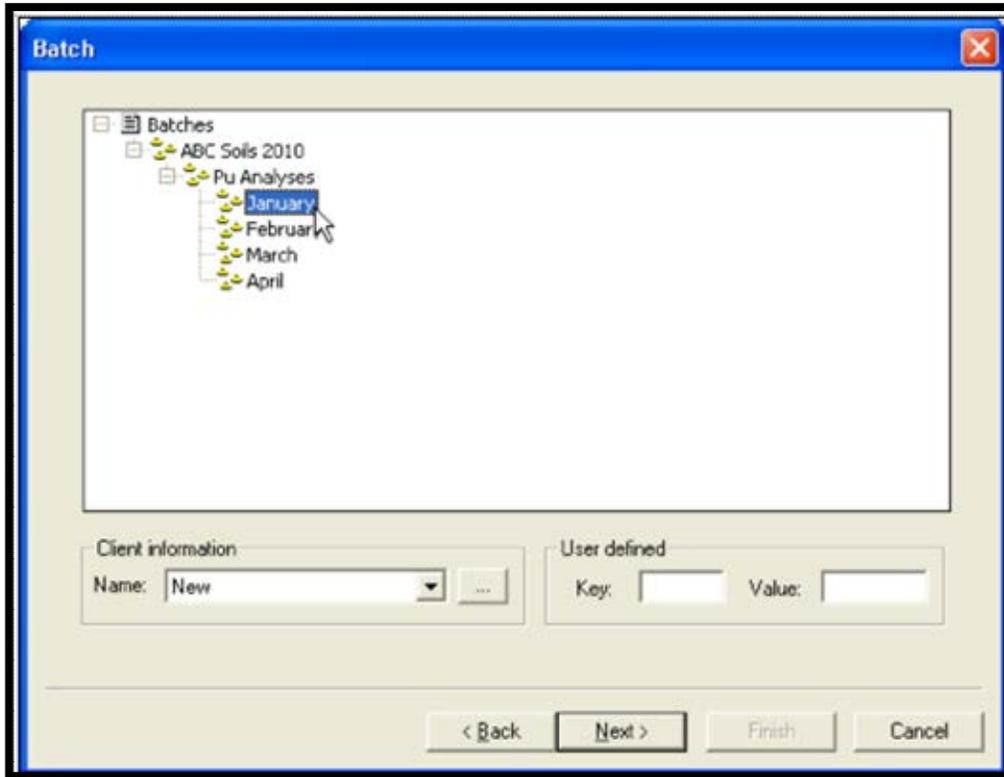

Figure 174. Batch Properties
- 4) Use the Batch Properties page (Figure 174) to assign this batch to the proper “location” within the AlphaVision database so the results can easily be found in the future. Users must choose a destination branch before they can move to the next page of the wizard. Following Section 11.4.2, expand the *ABC Soils 2010* project by clicking the plus (+) boxes, then click *January*. The spectra, analyses, and reports for this batch will now be viewable from this location in the Batch Explorer.